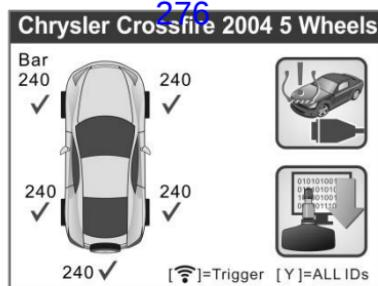

Figure 4.18
- 4) Follow the same process in **4.1 TPMS Sensor Check** to enter the activation screen. Use the **UP/DOWN** scroll button or **LEFT/RIGHT** scroll button to select the **TPMS Relearn** function on the upper right corner of the screen (Figure 4.18).